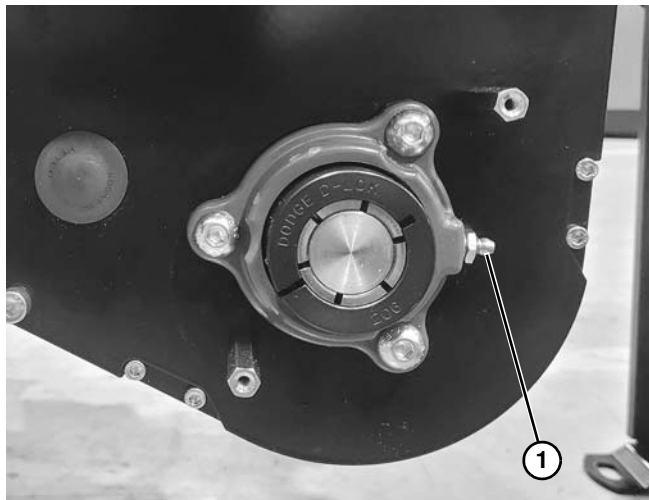

Figure 187
During reassembly, make certain that spindle housing assembly is oriented with zerk fitting (Figure 187, item 1) in location as shown.